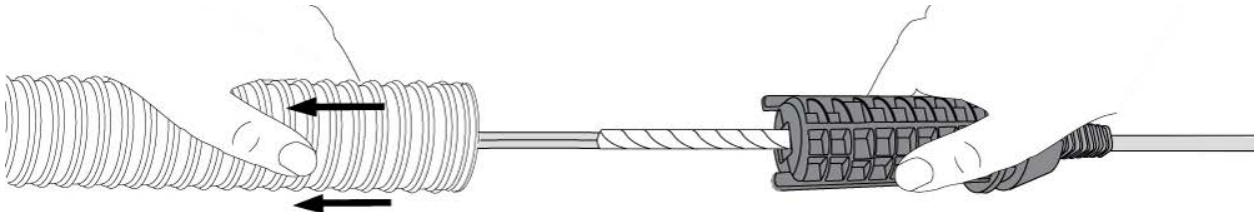

Figure 8— Tubing Removal
Step 5: Slowly slide the tubing away from the coupler and its connector legs (Figure 8).